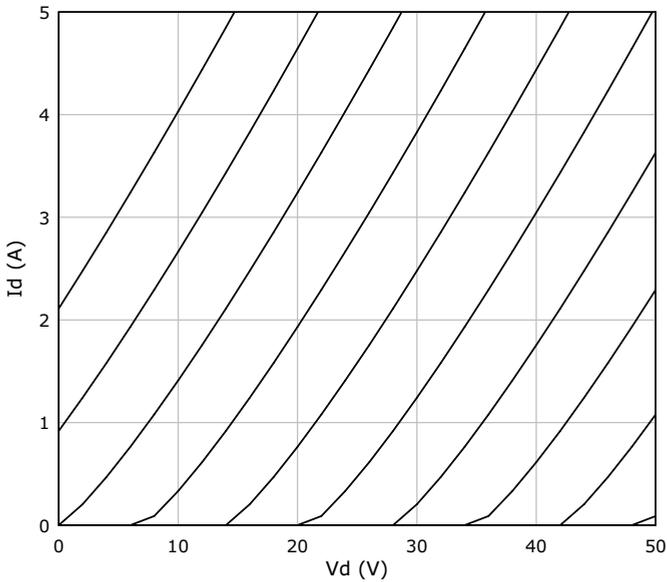

Figure 3 Power SIT curves based on equation (3)
Now if we make the exponent variable (equation (3)), we gain some additional control over the shape of our curve set (**Figure 3**).